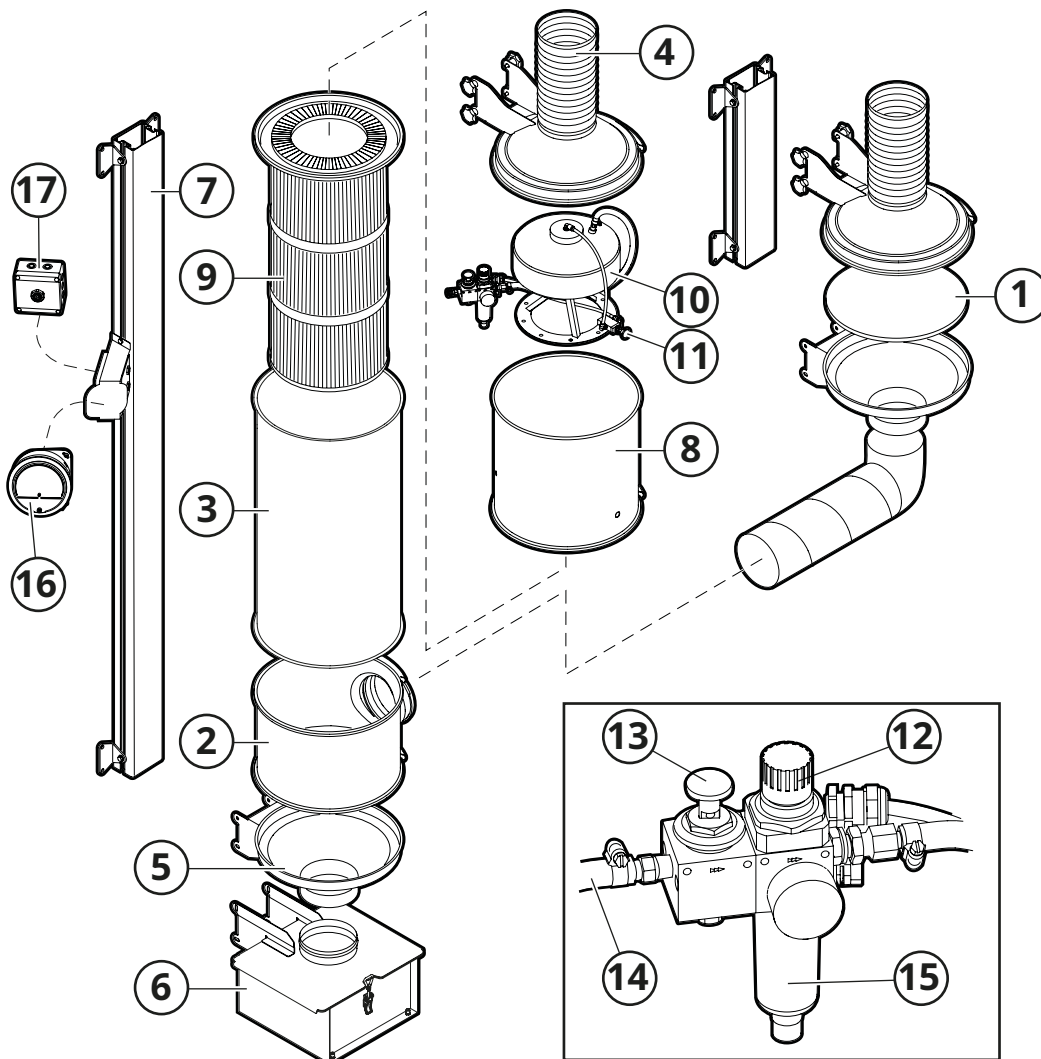

Fig. 2
See Fig. 2.
A lockable safety switch for bleeding and system purging (see pos. 13, **Fig. 2**) with quick-bleed valve and filter regulator is used to ensure that servicing can be carried out safely.